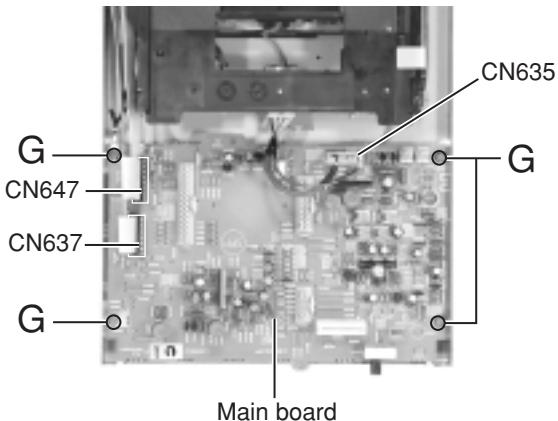

Fig. 10
■ Removing the main board (See Fig.10)